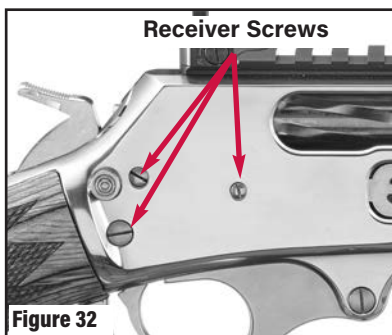

Figure 32
10. Tighten all receiver screws. There are three screws on the shooter's right (hammer screw, carrier screw, and loading gate screw) and one screw (trigger guard plate support screw) on the shooter's left. Do not over tighten. See Figures 32 and 33. **Do not attempt to remove or loosen these screws. See "Torx® Bit Sizes and Torque Specifications," p. 57.**